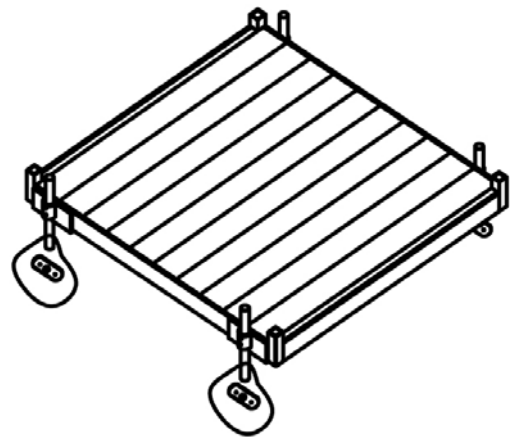

FIG. 11
- i) Slip the base foot under each support tube (FIG. 11).